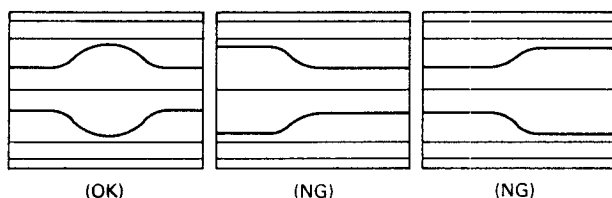

Fig. 13. Third Line (b)
- (9) Adjust VR4002 and VR4003 so that the top line (a) and the bottom line (c) are straight on the screen.
- (10) Observing the third line (b) from top, adjust T4002 for optimum phase as shown in Fig. 13.